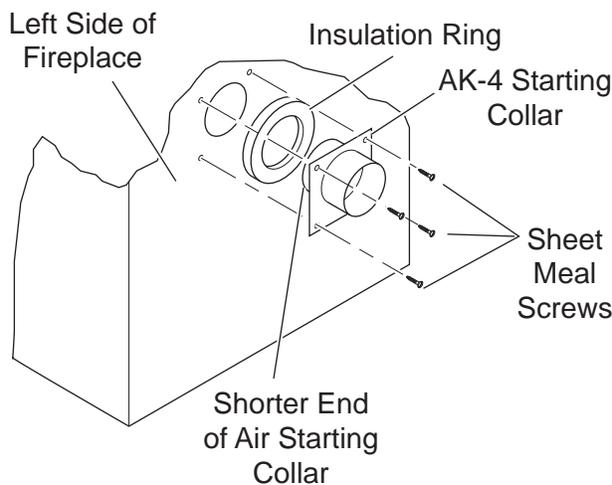

Figure 26 - Attaching Outside Air Starting Collar and Insulation Ring to Left Side of Fireplace
3. Place the starting collar (4") into the hole on the side of fireplace. Fasten it in place with the four sheet metal screws provided. *See Figures 26 and 28.*